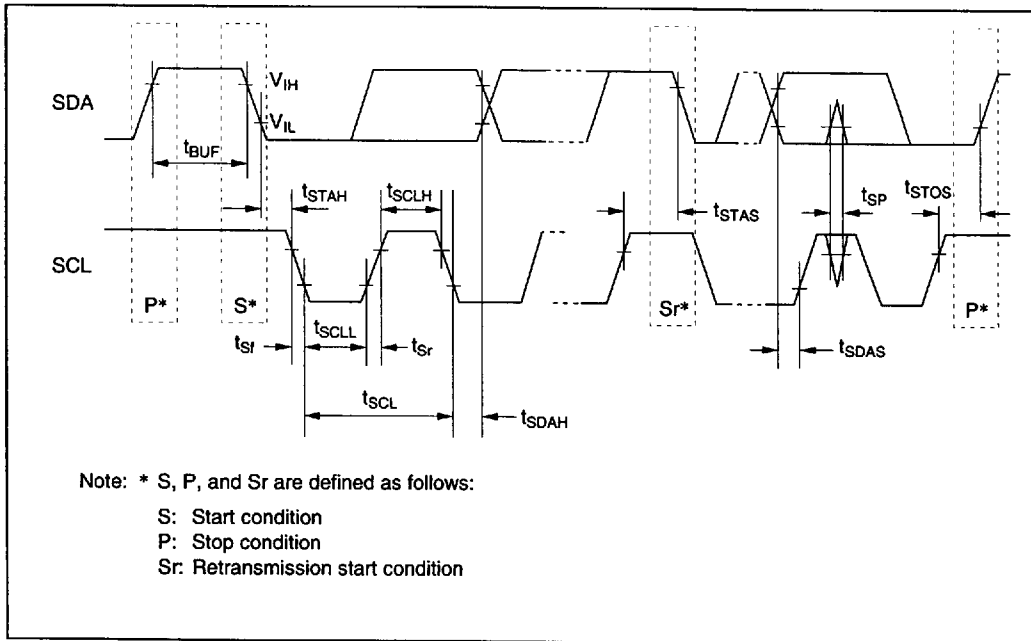

Figure 22-21 I²C Interface Input/Output Timing
22.3.9 I ² C Bus Timing (Option) (H8/3337 Series Only)	Figure 22-21